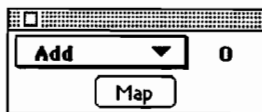

Figure 6-33: Typical Simple Modifier Edit Window
- Double-click the new module. A simple Modifier edit window opens as shown in Figure 6-33 .